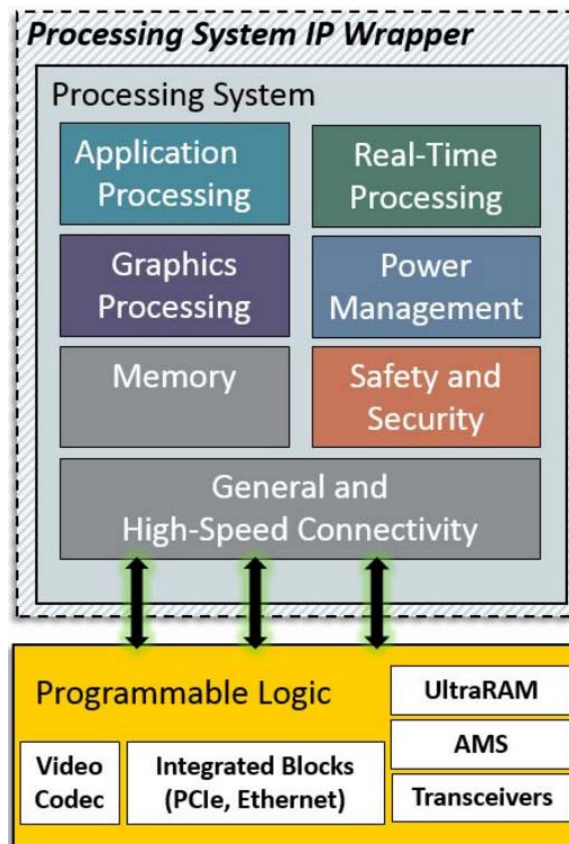

Figure 2-1: PS IP Wrapper Architecture
Figure 2-1 shows the architecture of Processing System (PS) IP wrapper.